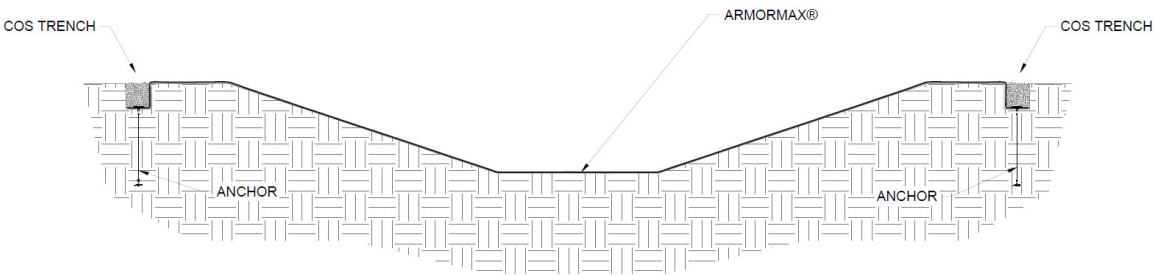

Figure 15: Crest of Slope (COS) Trenches Complete
- Secure **PROPEX** Armormax with pins and anchors in the opposite COS trench. Suggested placement of pins and anchors for the opposite COS trench is along the bottom of the trench with pins on 12 in (300 mm) centers in between anchors on 4 ft (1.2 m) centers (Figure 15).
- Backfill and compact the opposite COS trench in the location of the first **PROPEX** Armormax panel only (Figure 15).